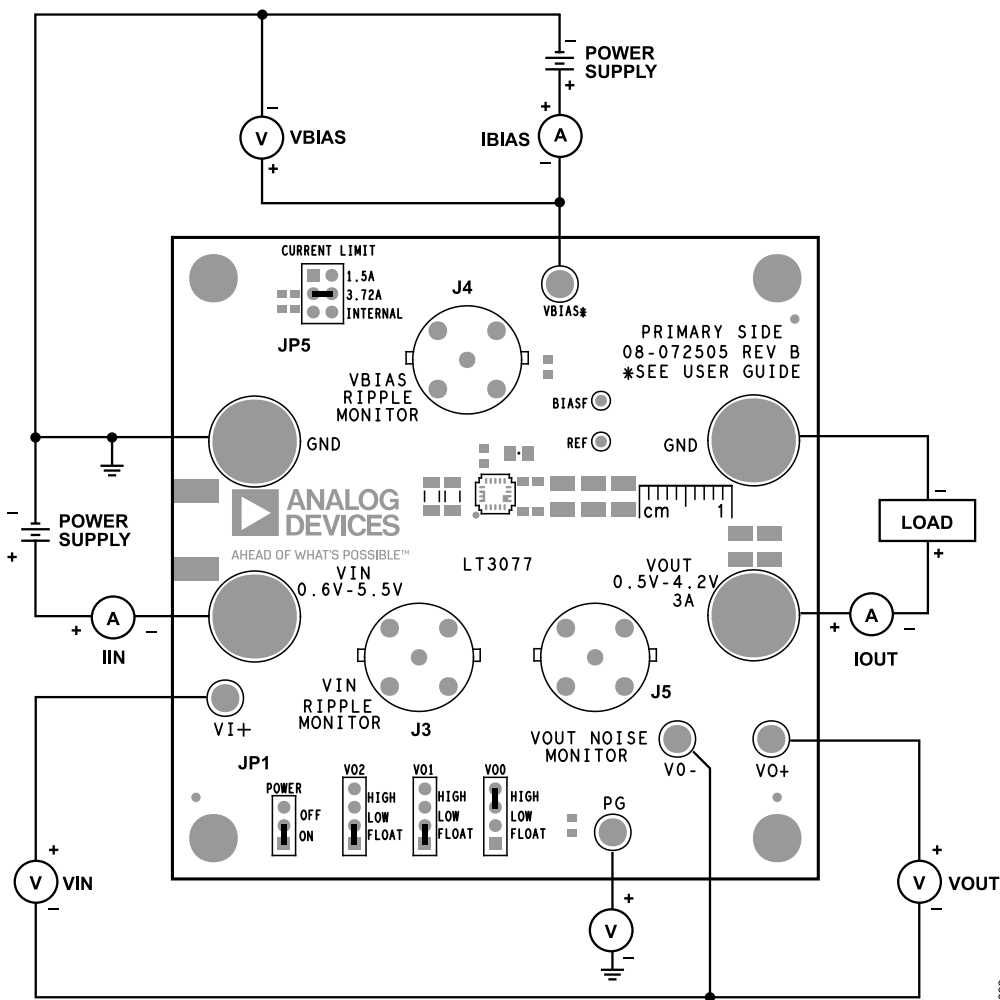

Figure 2. Proper Measurement Equipment Setup for the EVAL-LT3077-AZ
To use the EVAL-LT3077-AZ to evaluate the performance of the LT3077, see Figure 2 for the proper measurement equipment setup and take the following steps:
1. With the input supplies and load off and turned down, make all the connections as shown in Figure 2. Ensure that the VO2, VO1, and VO0 jumpers to set  $V_{OUT}$  are in the proper positions for the desired  $V_{OUT}$  according to the  $V_{OUT}$  selection matrix table in the LT3077 datasheet. In addition, ensure that the POWER jumper (JP1) is in the **ON** position, and that the CURRENT LIMIT jumper (JP5) is in the 3.72 A position.